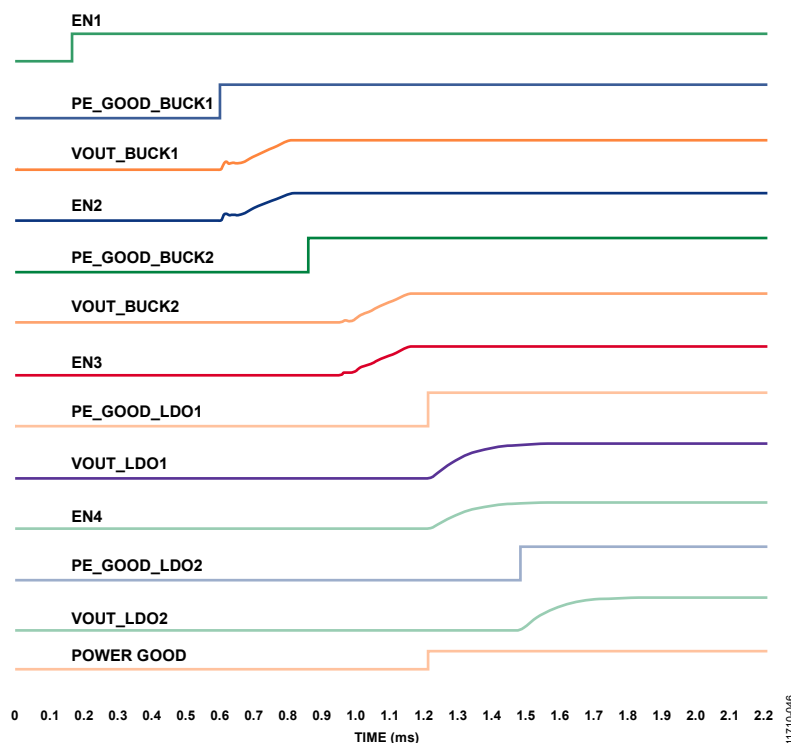

Figure 46. Regulator Sequencing on the ADP5134, Shutdown Control and Precision Enable Thresholds with PG Monitoring BUCK1 Only
A power-good output is available at Pin 6 (PG) to monitor the output voltage of any combination of the four regulators. The PG output can also be factory programmed to monitor a specific regulator channel, such as BUCK1, as shown in Figure 46. The PG pin can connect to a pull-up current to drive external regulators or other circuits. In this configuration, the PG pin goes high when the channels monitored are in regulation and goes low when the output voltage falls below 90% of the nominal V_{VOUTx} level. The PG pin can also drive an LED for fault monitoring. For example, in this configuration, a red LED is biased, and current sinks into the PG pin when the output voltage falls below 90% of the nominal V_{VOUTx} level. This turns the LED on, and, when the output voltage is in regulation, turns it off.
Figure 46 shows the activation timings for the ADP5134 when regulators are in sequence, VOUT1 controlling EN2, VOUT2 controlling EN3, and VOUT3 controlling EN4. Also shown is the power-good signal monitoring BUCK1 only.